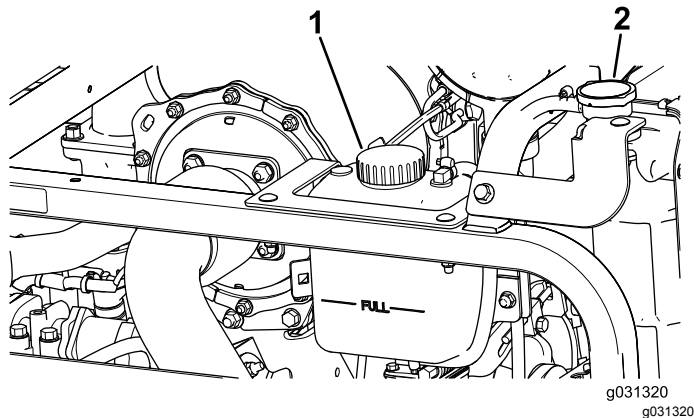

Figure 113
1. Carefully remove the radiator cap and expansion-tank cap (Figure 113).
2. Check the coolant level in the radiator (Figure 113).